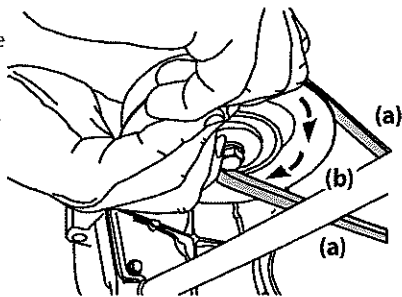

Figure 46
- d. While still holding the PTO belt (a) downward, continue turning the PTO pulley (b) until the PTO belt (a) is rolled off the PTO pulley (b). Refer to Figure 46.
10. While holding the PTO belt and PTO pulley together, rotate the PTO pulley to the left (see Figure 46). Continue holding and rotating the PTO pulley and PTO belt until the PTO belt is fully rolled into the PTO pulley.